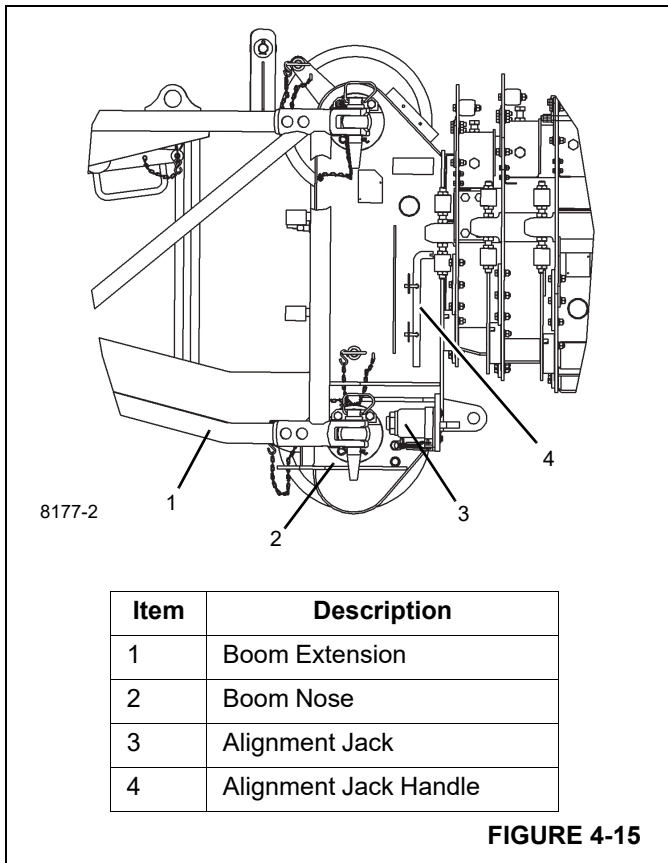

FIGURE 4-15
22. Using the jack handle (4, Figure 4-15) stored on the left side of the boom nose, extend boom extension alignment jack (3, Figure 4-15) until the lower left anchor and attachment fittings of the boom extension base section and boom nose are aligned. Install attachment pin and secure with retaining clip.